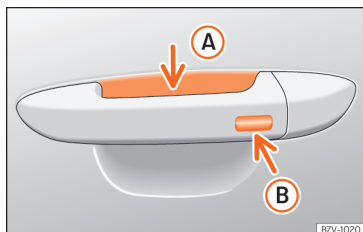

Fig. 50 Door handle: sensor surfaces.
»» Fig. 50
- Touch the sensor surface >>> Fig. 50 Ⓑ on the outside of the door handle. All turn signals flash once.
- Within 5 seconds, touch the sensor on the outside of the door handle once >>> Fig. 50 Ⓑ. Do not grip the handle while doing so. This temporarily deactivates the Keyless Access system.
To close all the electric windows and the sunroof using the **comfort function**, keep a finger for a few seconds on the locking sensor surface >>> Fig. 50 Ⓑ of the door handle until the windows and roof have closed.